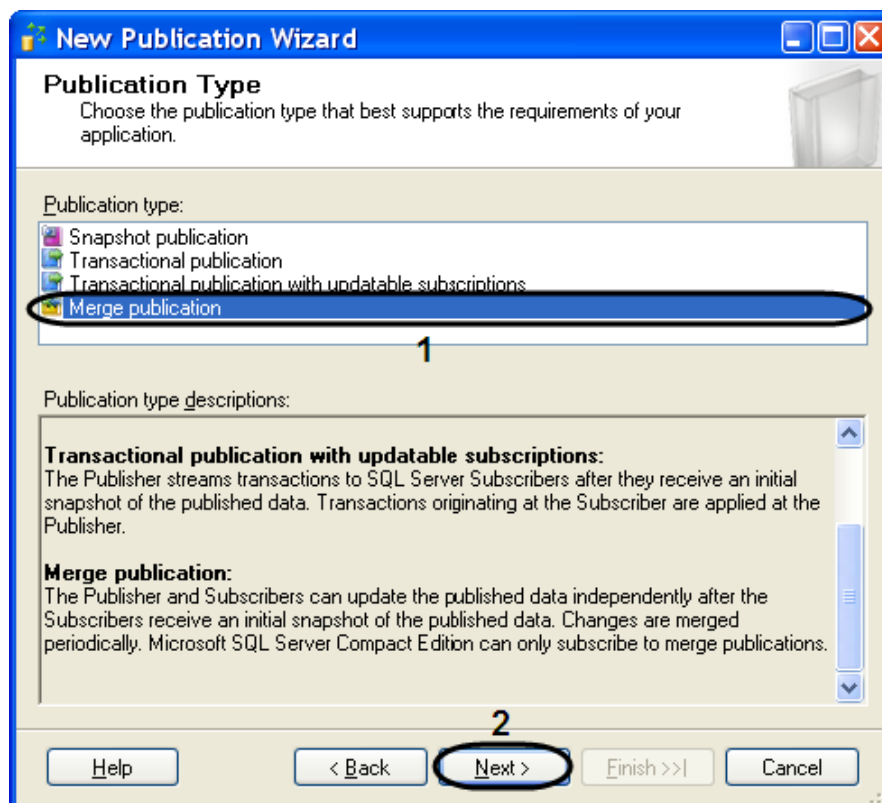

Fig. 9.3-5 Publication type selection
- 10.3. Select the type value of the publication that is being created from the list «Publication Type» - «Merge publication» (Fig. 9.3-5, 1).
- 10.4. Click Next to continue (Fig. 9.3-5, 2).